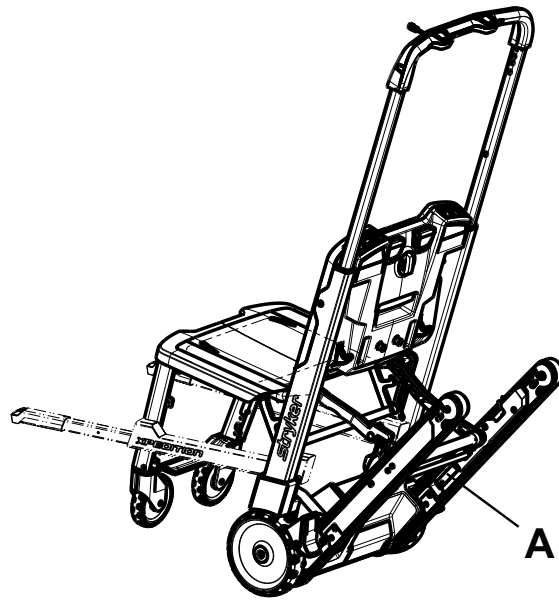

Figure 3 – Serial number location - Xpedition
See below for the chair (A) serial number location (Figure 3).